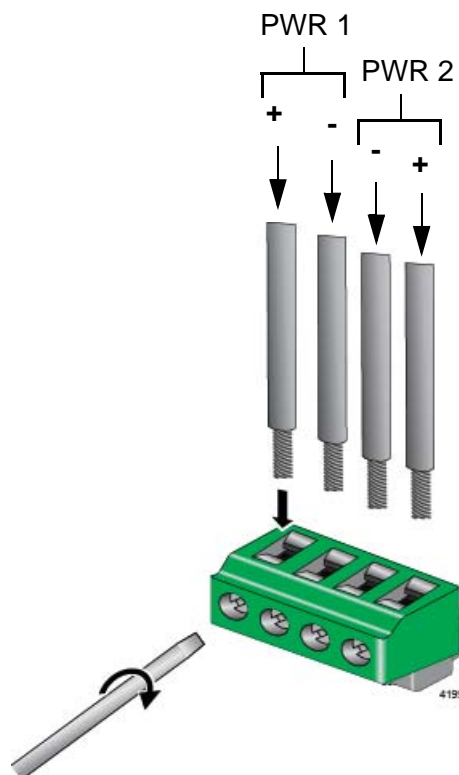

Figure 45. Inserting the Wires into the PWR 1 - PWR 2 Cable Connector
5. Insert the wires into the connector and tighten the retaining screws to secure the wires. Refer to Figure 45.